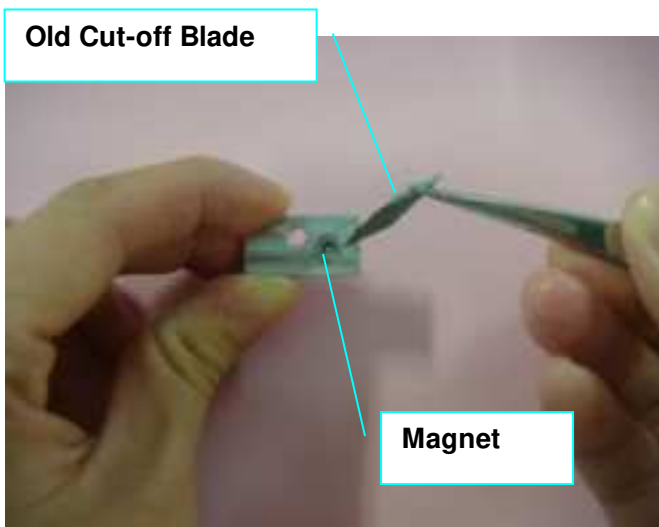

Figure 2-45
Step 7 Unscrew the Cut-off Blade from the Cut-off Blade Fixer, which will be attracted by the magnet on it, and replace it with a new Cut-off Blade along the track highlighted in red using tweezers (Figure 2-45 and 2-46).